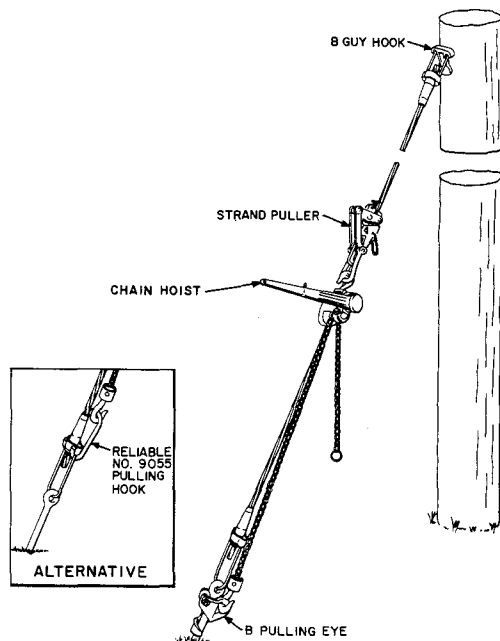

Fig. 25—Tensioning Guy Using Pulling Eye or Pulling Hook
(1) **B Pulling Eye:** (See Fig. 25.) Assemble the pulling eye on the guy rod and place the strand puller on the guy strand. Apply the desired tension with a chain hoist and feed the strand through the cartridge. Release the chain hoist tension to set the jaws of the Strandvise.
(2) **Reliable No. 9055 Pulling Hook:** (See Fig. 25.)